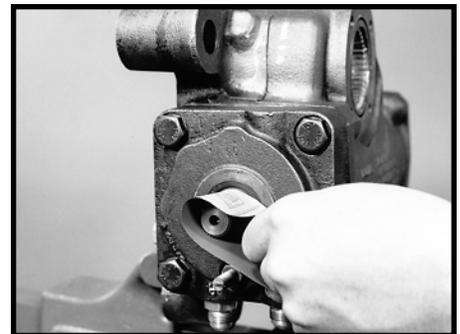

Figure 59
20. Clean any paint or foreign material from the input shaft with a fine grade emery paper. SEE FIGURE 59.
21. Loosen the poppet adjusting screw sealing nut (2) and the poppet adjusting screw (3) in the valve housing (8) approximately two turns.